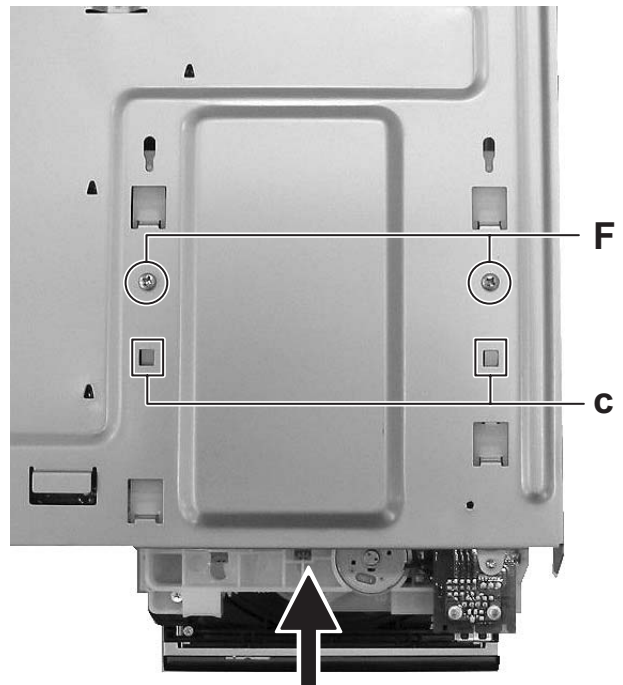

Fig.8
- (2) Remove the two screws **F** attaching the DVD mechanism assembly from bottom cover. (See Fig.8)
- (3) Press the hook **c** and slide out the DVD mechanism for direction the arrow. (See Fig.8)